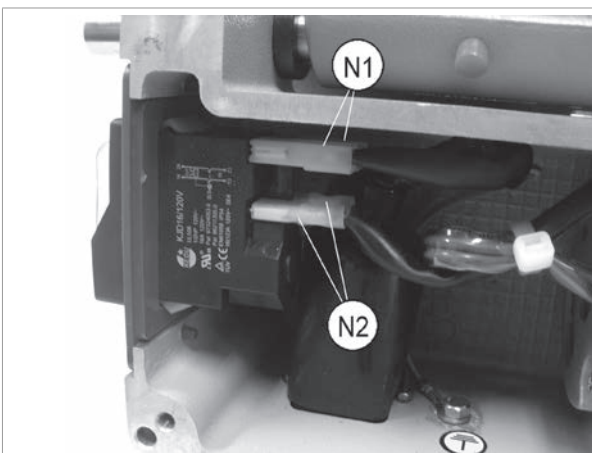

Fig. 36
- 2) Detach the 4 connectors (N1) and (N2) paying special attention to their position (Fig. 36).